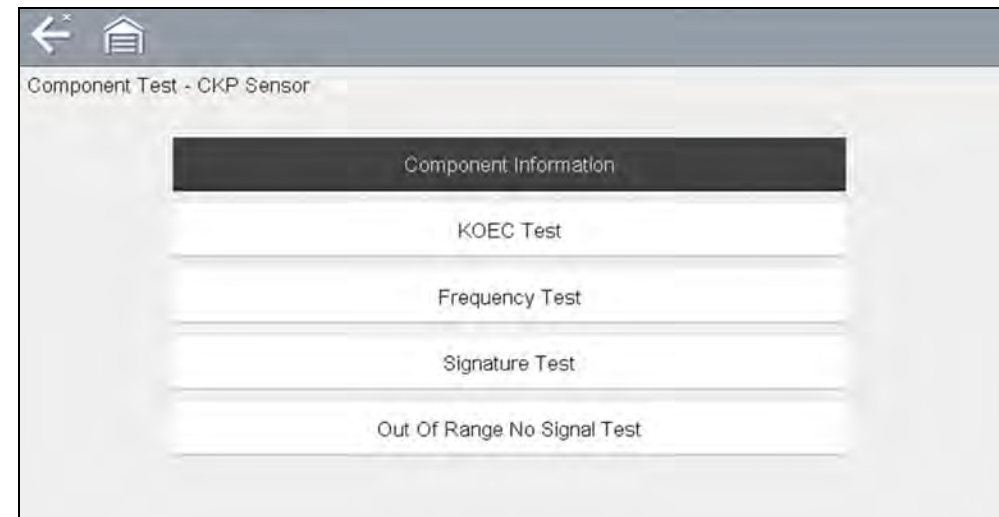

Figure 10-5 Component Tests Menu
2. Select **Component Information** from the Component Test menu (Figure 10-5).